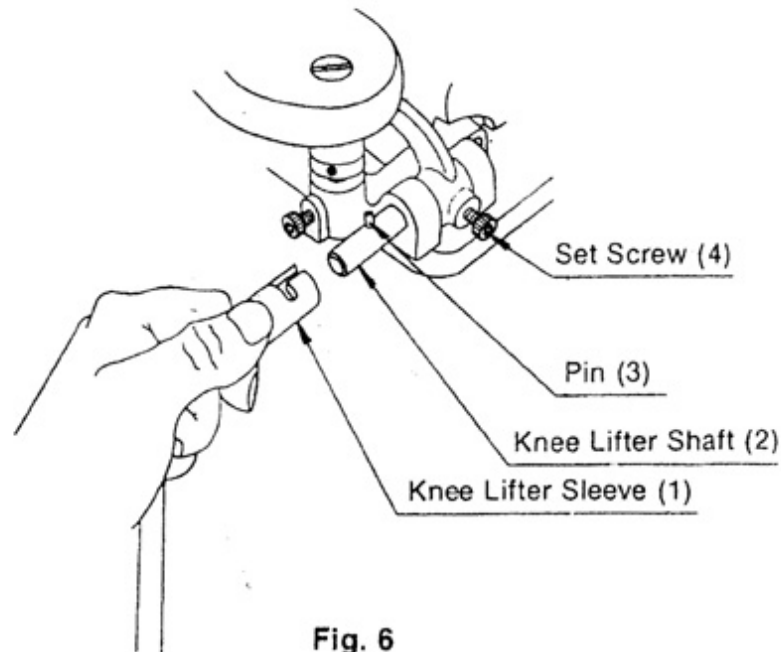

Fig. 6
D. Assembly of Knee Lifter (Fig. 6)